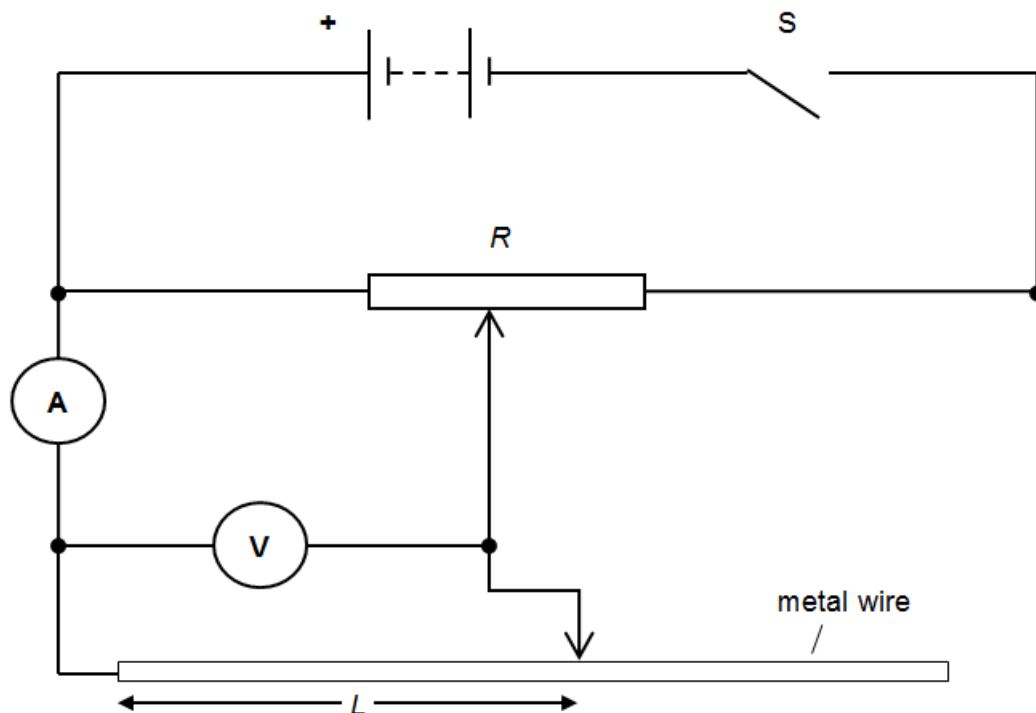

Fig. 1
1. Set up the circuit shown below in Fig. 1, so that the d.c. supply is in series with an external switch, S, and the metal wire. The length of wire in the circuit is adjusted and connected into the circuit using crocodile clips.